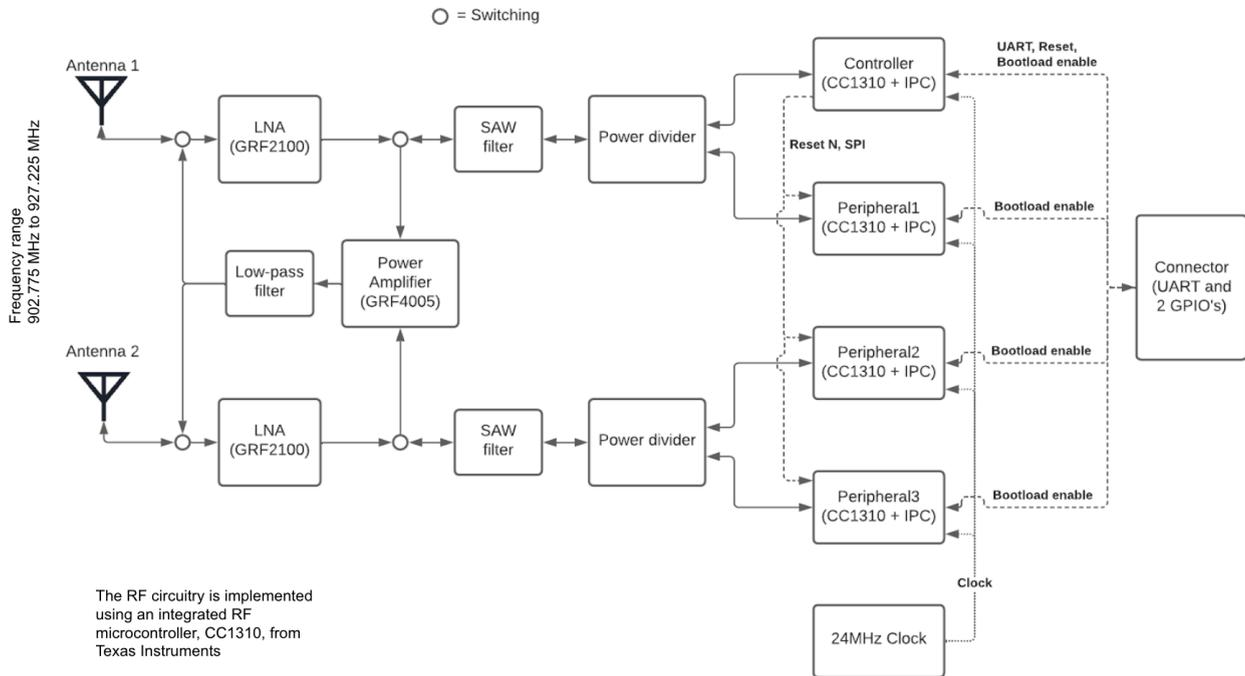

Figure 1. Block diagram
The block diagram of the SDS Module (US) is shown in figure 1.